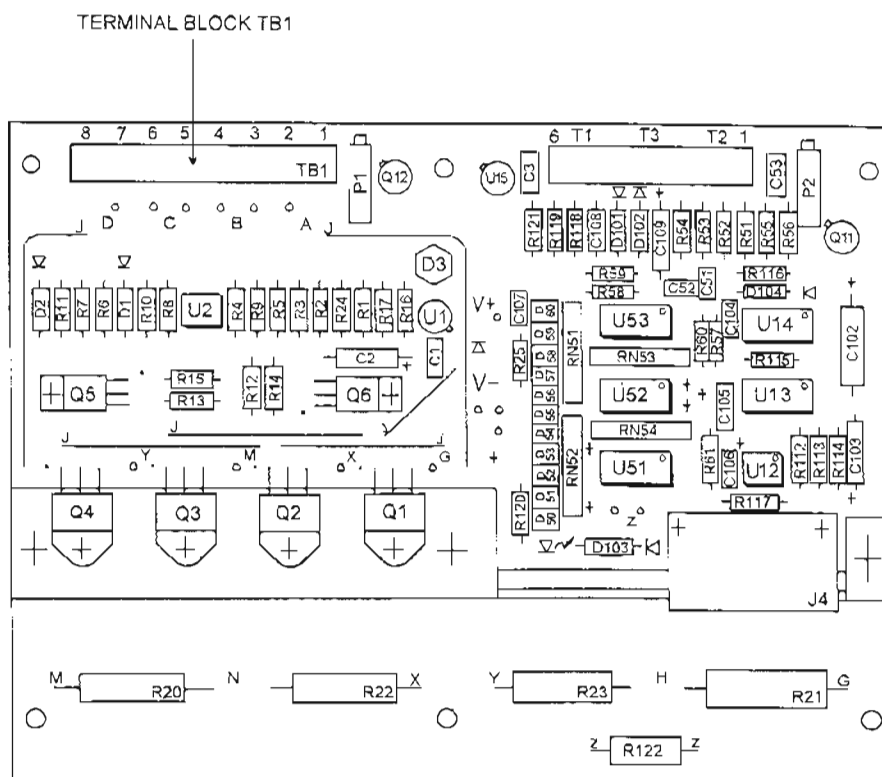

Figure 3-18. Terminal block TB1.
- (2) Carefully pull the panel back by 1/2 inch, top end only, to expose the terminal block TB1 (fig 3-18).
- (3) Disconnect wires 1 and 4 from TB1 and connect them to a 12 VDC power source. The current reading should be 2-3 amps.
- (4) Repeat step 3 with wire pair 5-8.
- (5) Determine the pair with the defective thermoelectric assembly.
- (6) Cut the connection between the two thermoelectric assemblies behind the control panel, wires 2-3 or 6-7 respectively.
- (7) Connect a 6 VDC power source to the leads of each thermoelectric assembly between 1-2, 3-4, 5-6, and 7-8.
- (8) Determine the defective thermoelectric assembly.